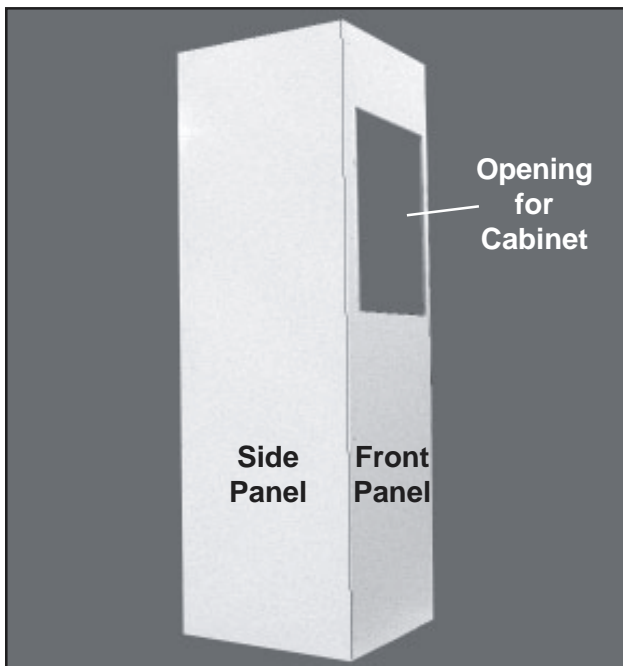

Figure 3. Attaching the Front Panel to the Side Panel
- Trim Washers for Collar Screws (8)
- If the chase includes a cabinet, the rear panel is plain, and the front panel has an opening for the cabinet (Figure 3).
Note: If the chase has a cabinet, the panel with the cabinet opening is the front panel (Figure 3). If there is no cabinet, the front and back panels are plain (identical).